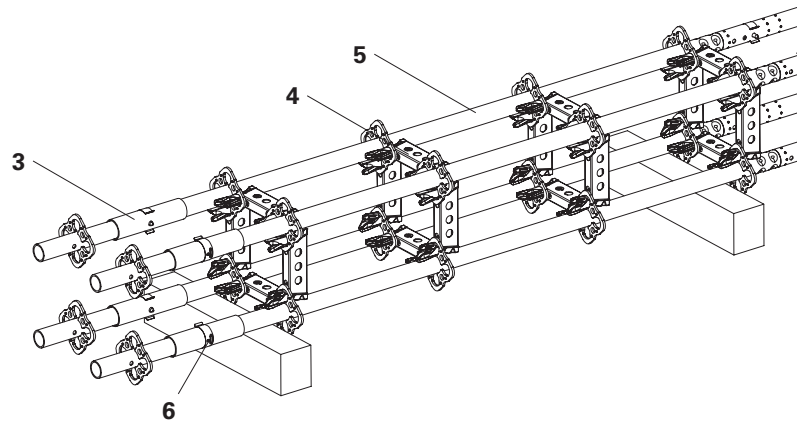

Fig. A2.01
1. Assemble Standards UVR-2 (5) and Horizontal Ledgers UH-2 (4) to form a prop up to the required height.
2. Place the Base Standards UVB-25 (3) on the standards and connect them with the locking pins (6). (Fig. A2.01)